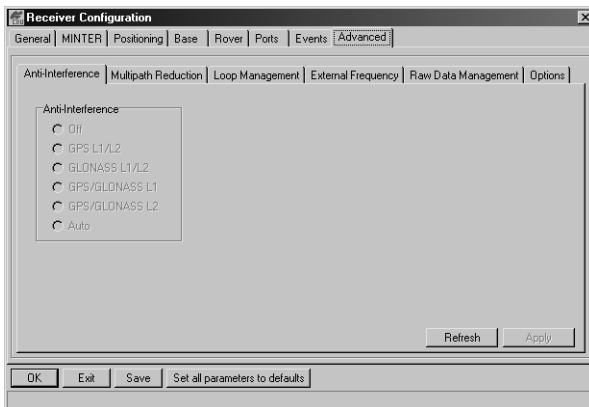

Figure 2-8. Receiver Configuration – Advanced Tab
4. Click the **Advanced** tab on the Receiver Configuration screen (Figure 2-8).